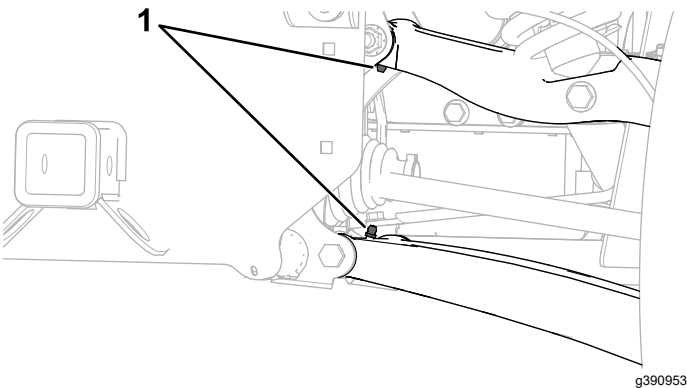

Figure 93
- **Rear control arm pivots (4);** refer to Figure 93